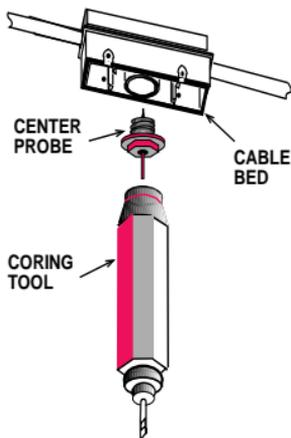

Figure 2-6. Installing the Center Probe
6. Install the center probe using the nut driver end of the coring tool (see Figure 2-6). Insert the center probe into the hole in the underside of the cable bed and tighten until snug.